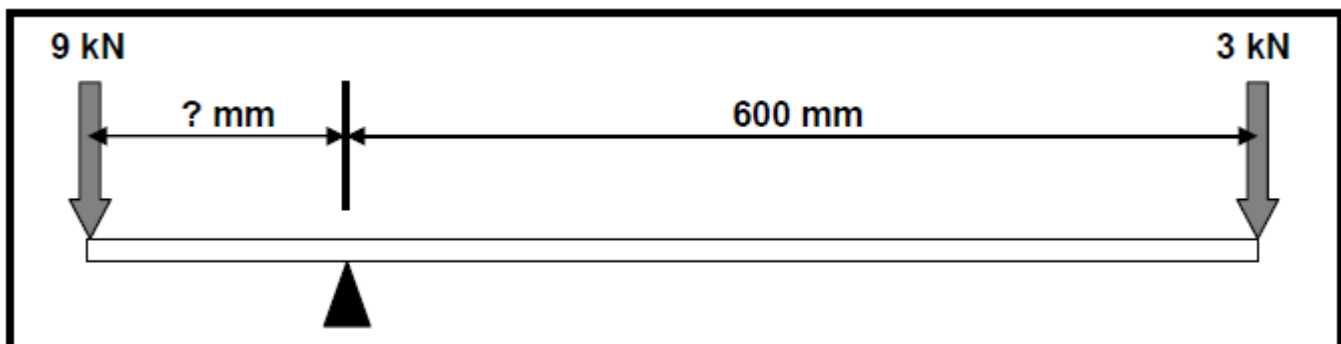

FIGURE 3.1
3.1 The beam in FIGURE 3.1 below is in equilibrium. Calculate the distance between the support point and the 9 kN load.